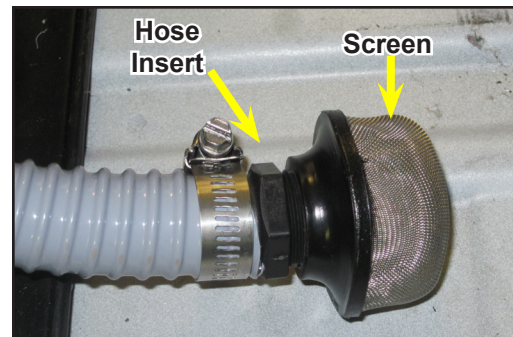

Figure 20. Install Hose Insert and Filter Screen on the Longer (Passenger-Side) Hose
2. Install the hose insert and filter screen onto the end of the longer hose (see Figure 20).